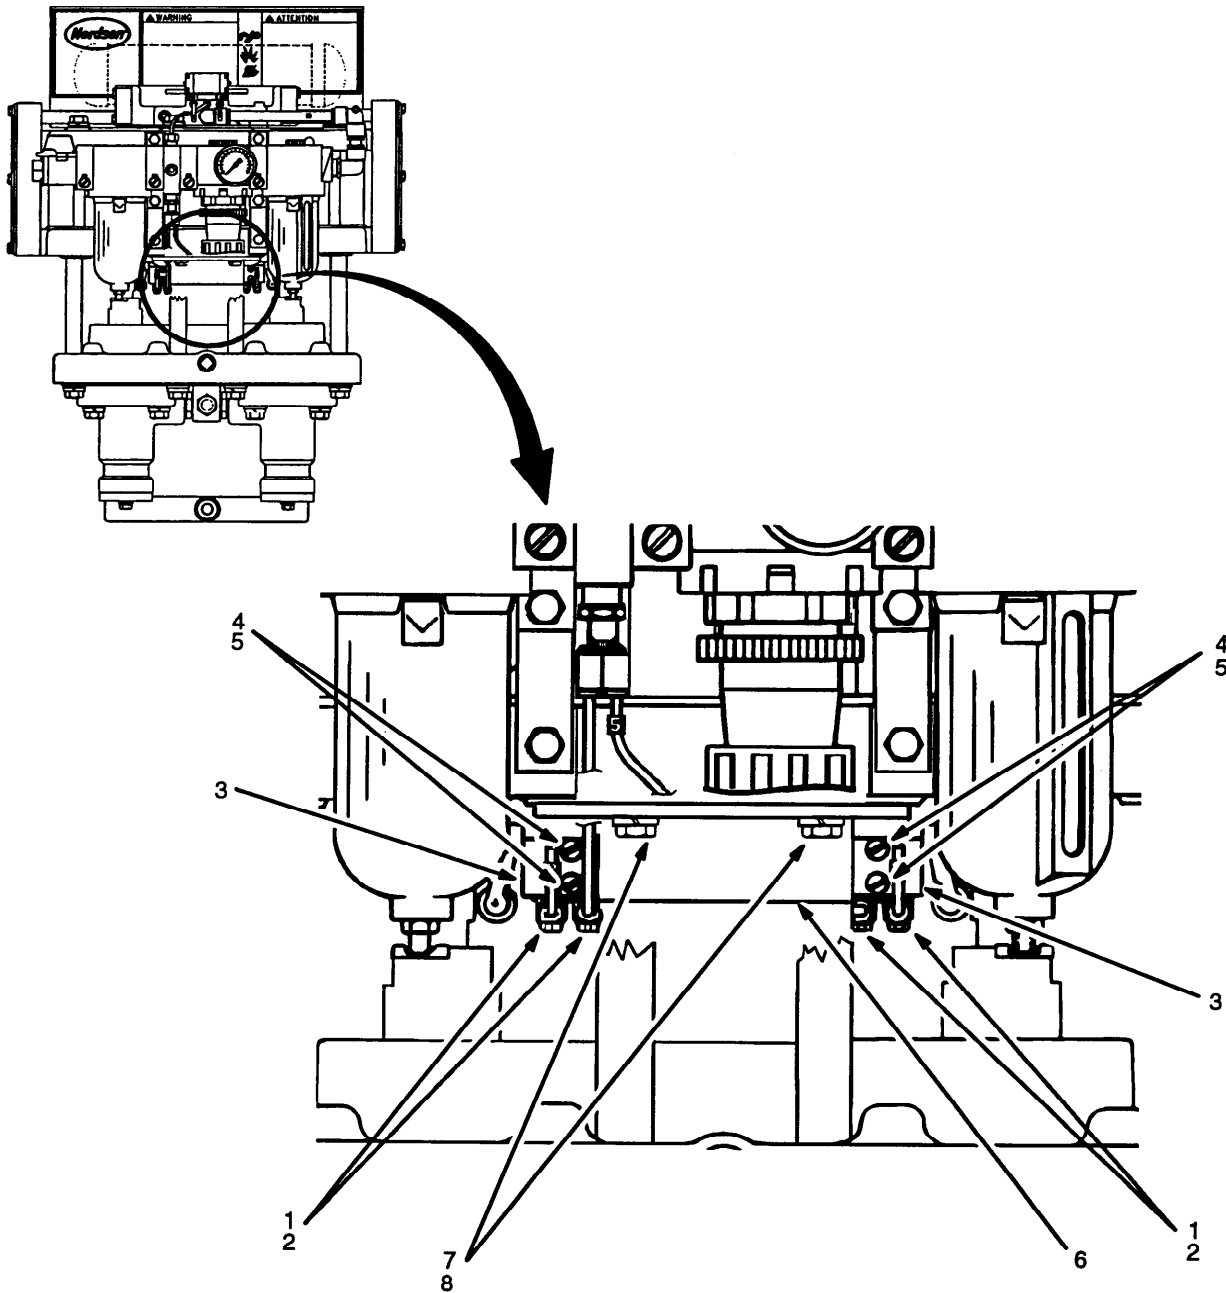

Figure 2. Roller Valve Replacement
1. Refer to Figure 2. Disconnect air lines from roller valves.